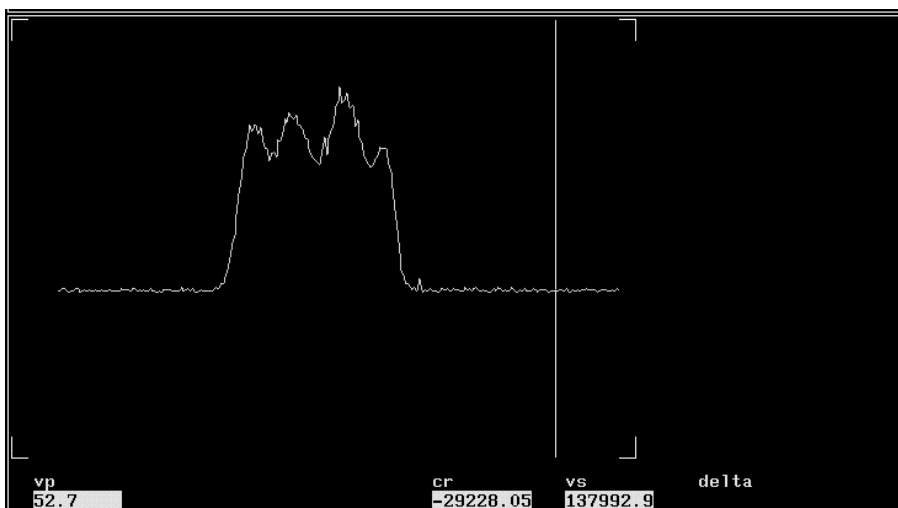

Figure 111. Profile of Fourier Transform of One Projection
2. Enter **go** to start the measurement. When the acquisition is complete, enter **ft** to Fourier transform the data. Figure 111 shows a projection profile.